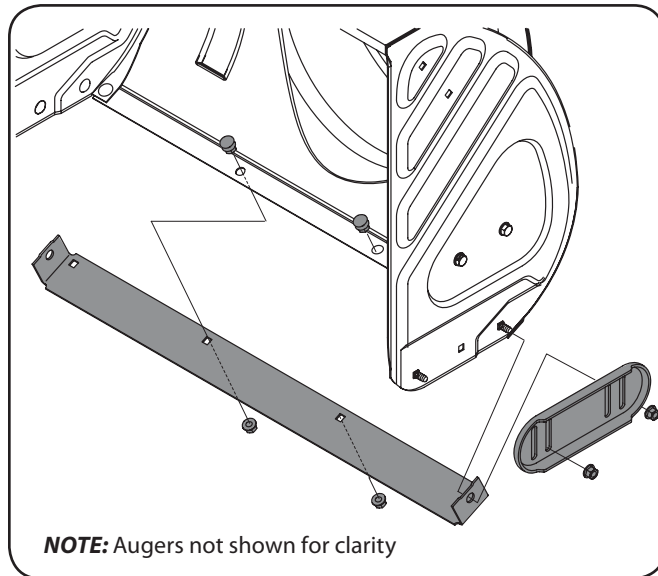

Figure 6-1
2. Reassemble the new skid shoes with the four carriage bolts (two on each side) and hex flange nuts. Refer to Fig. 6-1.
2. Reassemble new shave plate, making sure heads of carriage bolts are to the inside of housing. Tighten securely. Refer to Fig. 6-1.